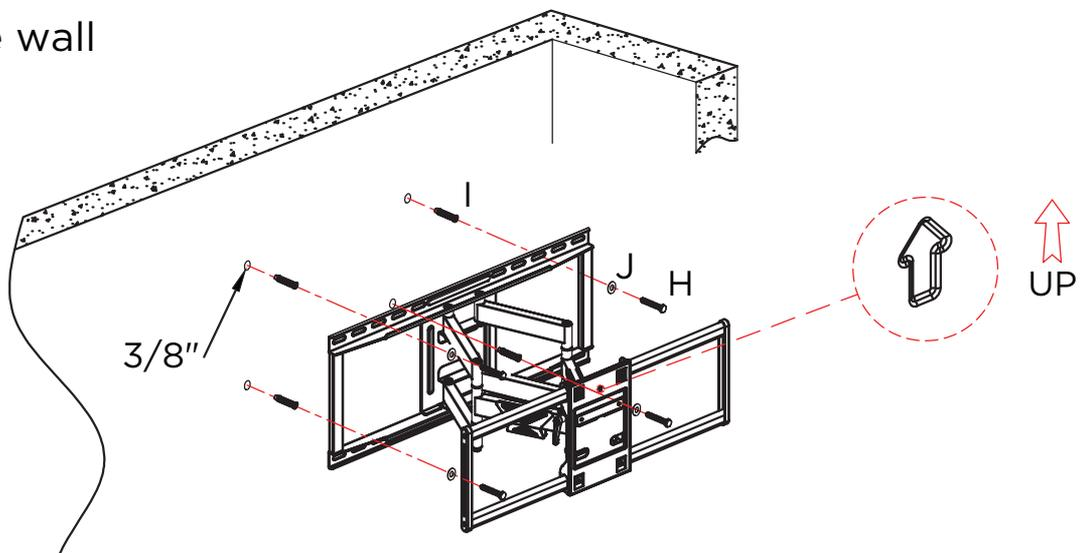

Figure 1 (keep the wall plate level)
Step 1 : Please remove the plaster board on the surface of a concrete wall when assembling the mount on a concrete wall. Hold wall plate (A) against the wall at desired position on a concrete wall. Then, using a pencil, mark 4 hole locations. Then drill holes according pencil marks using 3/8" size drill bit to a depth of 2.5". Insert wall anchors (I) into holes. You may need to use hammer to lightly tap wall anchors into the wall. Then fix wall plate (A) to the wall with screws (H) and washers (J). (Figure 1)